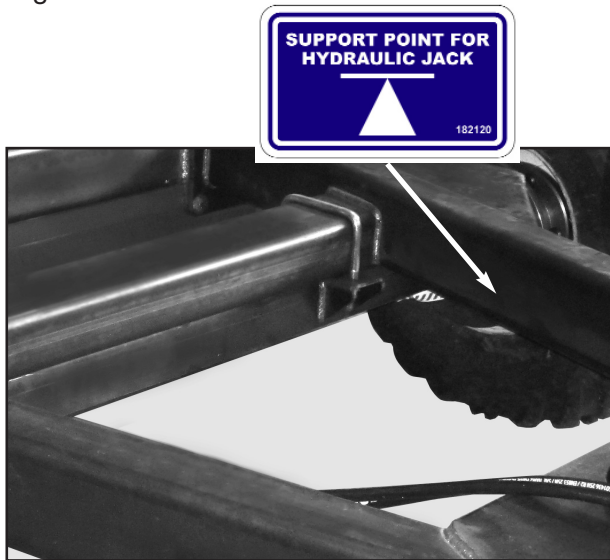

Figure 2 - Support point for jack location
- 2) Lift the machine using a mechanical or hydraulic jack applied to the chassis in the location indicated by the decal, as shown in Figure 2.